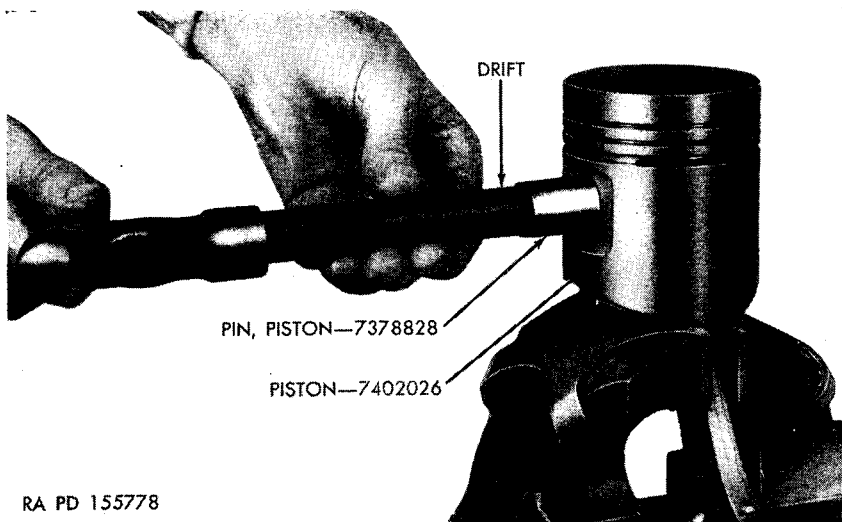

Figure 68. Installing piston pin in piston and connecting rod.
a. Install piston-pin retaining ring in one side of the piston. Position piston over top of connecting rod and push pin through piston, rod, and up against retaining ring on opposite side of piston. Piston pin should be a hand push fit at room temperature of 70° F. However, if pin tightness is apparent, use drift (fig. 68). Install other retaining ring and locate ring tangs at bottom of pin holes.